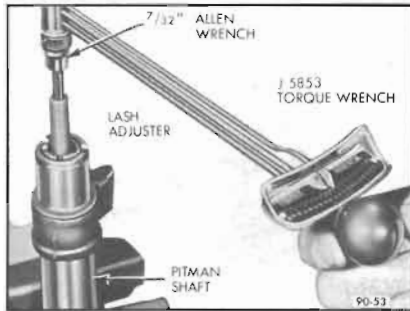

Figure 90-53—Checking Torque on Lash Adjuster
3. Check the torque on the lash adjuster. See Figure 90-53. If torque exceeds 15 inch pounds, pitman shaft assembly should be replaced.